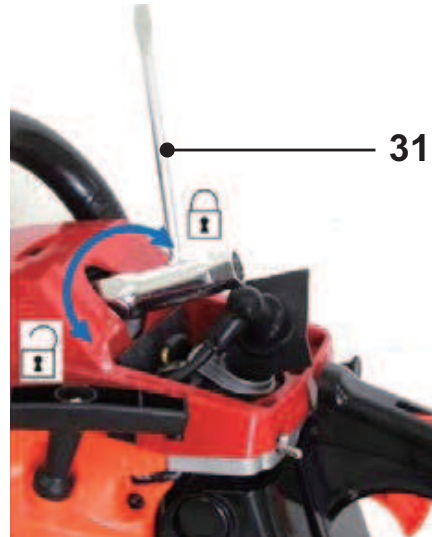

Fig. 52
3. Loosen the spark plug **(20)** anticlockwise using the multi tool **(31)** and remove it carefully (Fig. 52).